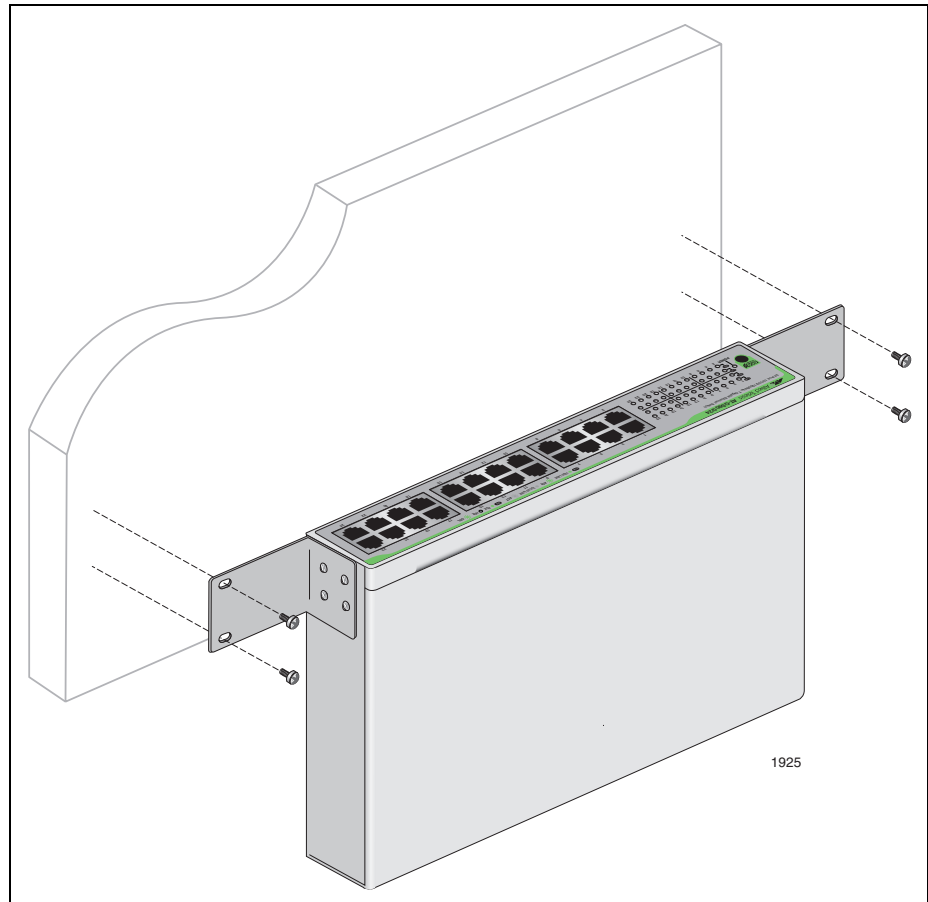

Figure 8. Attaching the switch to the wall
- Place the switch on the wall. Then mount the switch using the plastic anchors and screws which are shipped with the product. See Figure 8.
The switch must be mounted with the AC Power Connector facing down to conform with UL requirements as shown in Figure 8.